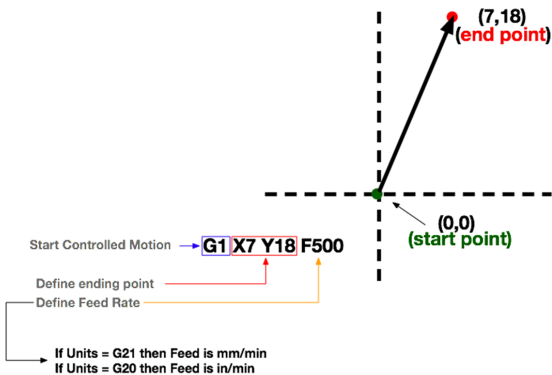

Figure 8-4. *G1 moves the machine at a specified feed rate*
As illustrated in Figure 8-4, issuing a G1 command tells the machine to move at the specified feed rate (F):